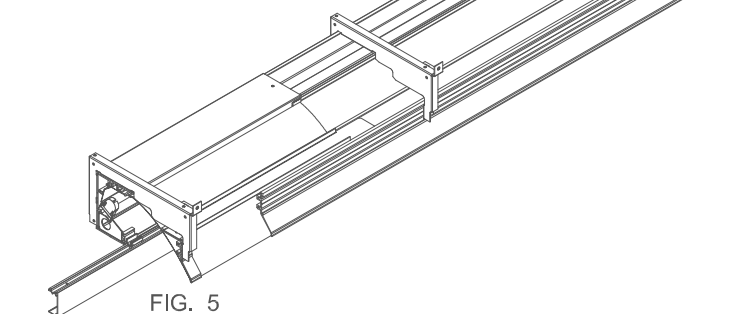

FIG. 5
8. REMOVE LAMP BARRIER IF EQUIPPED. TO REMOVE THE BARRIER, ROTATE IT A FEW DEGREES UP FROM ITS LOWEST POSITION WHILE SIMULTANEOUSLY PULLING ITS WHOLE LENGTH TOWARDS THE WALL. MAKE A NOTE AS TO THE APPROXIMATE ANGLE OF DISENGAGEMENT TO MAKE IT EASIER TO RE-INSTALL. SEE FIG.5 & 5A .